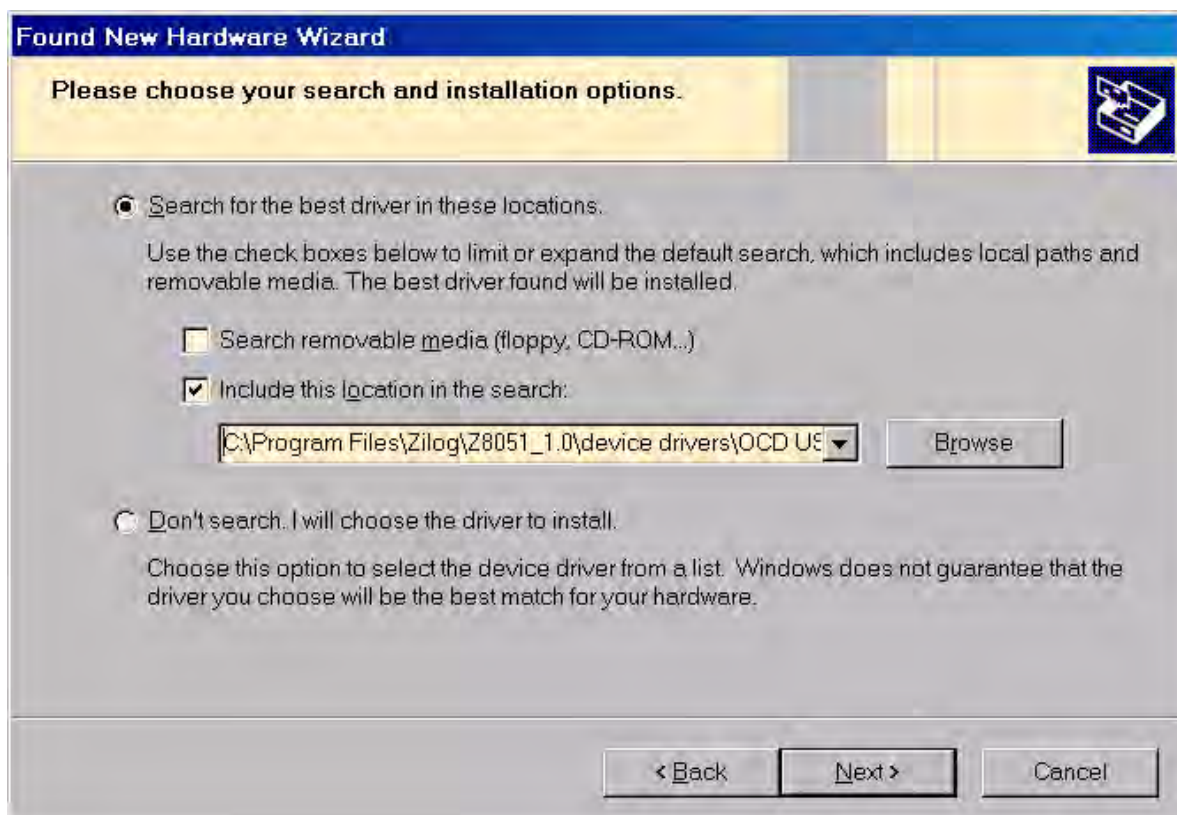

Figure 96. The Found New Hardware Wizard's Browse Screen
3. The next dialog box, shown in Figure 96, prompts you to enter a path or navigate to the directory in which the .inf file was installed. Depending on the type of computer you use (32-bit or 64-bit), use the **Browse** button to navigate to one of the following paths and click the **Next** button, leaving all other selections at their default settings.